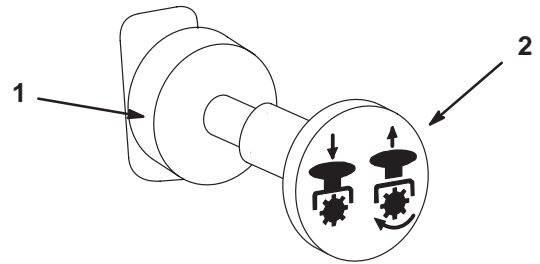

Figure 15
3. Pull out the power takeoff (PTO) switch to engage the PTO (Fig. 15).
To disengage, push the PTO switch to Off (Fig. 15).